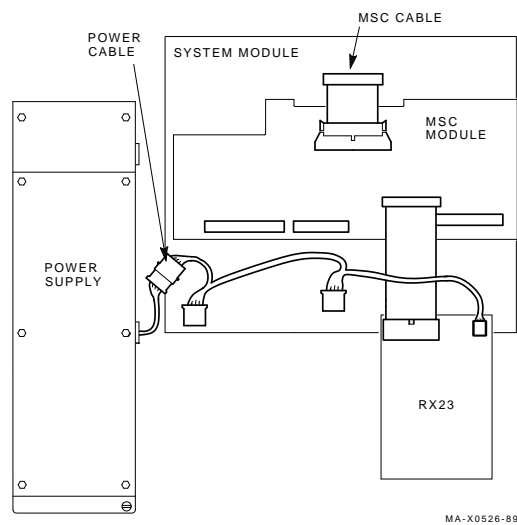

Figure 3-2 Disconnecting Power and MSC Cables
1. Disconnect the power cable and the MSC cable from the MSC module (Figure 3-2).